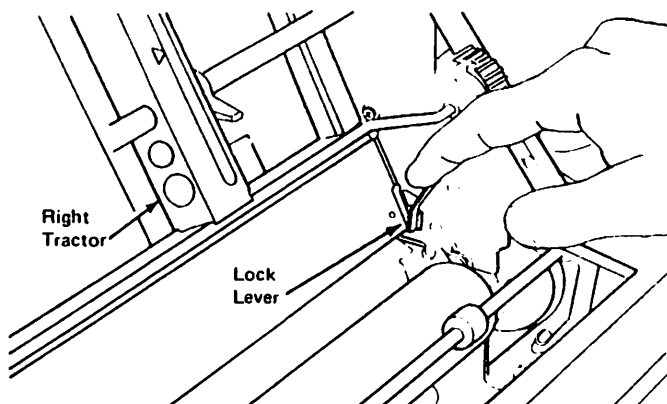

Figure 9 Latching lock levers
6. Pull the lock levers forward to latch the bi-directional forms tractor in place (Figure 9).